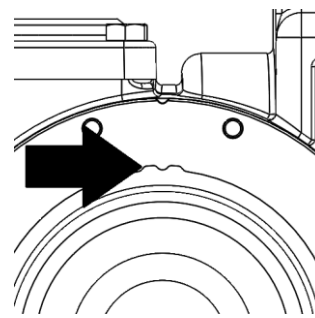

Figure 13 – Containment shell Installation Orientation
10. Install key (35A) into rotor/shaft (13) keyway. Slide driven magnet assembly (52) onto rotor/shaft (13). Place washer (58) and capscREW (59) onto end of shaft and hand tighten. Torque screw to 12.5 ft-lbf (17 Nm).
11. Install containment shell o-ring into inboard head. Install containment shell (50) onto inboard head dowel (20). Rotate containment shell retaining groove towards the top of the pump as shown in Figure 13. This will align it with the pin in the magnet housing.